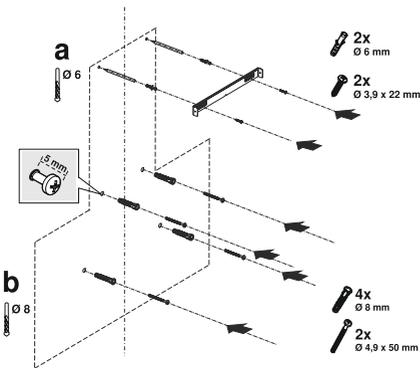

Fig. 11
1. Draw a mid location line from the ceiling perpendicular to the lower edge of the hood (Fig. 11).
2. There is a tab in the middle of the flue connection plate. Place the middle point of this tab on the line that is drawn perpendicular to the wall. Align horizontally and mark the holes where the connection plate will be mounted via a pen (Fig. 11/a).
Drill the marked points with Ø6mm drill and insert 2xØ6mm plastic dowels in the drilled holes (Fig. 11/a).
Fix the flue connection plate to the wall with 3,9x22 screws (Fig. 11/a).
3. To drill the suspension holes of the flue, place the mounting template on the surface where the appliance will be mounted on and mark the mounting holes (Fig. 11/b).
4. ▶ Drill the suspension holes with $\varnothing 8\text{mm}$ drill and place the dowels (Fig. 11/b).
Place 2x4.950 suspension screw with a clearance of 5 mm between the screw head and the wall (Fig. 11/b).
- The cooker hood is set in the midst, and then the flue connecting plate is directly affixed to the wall, under the cover or points E and F are marked after performing a measurement (Fig. 11)
- Drill points E and F with $\text{Ø}6\text{mm}$ drill bit, and insert $\text{Ø}6\text{mm}$ and plastic dowels. Insert the flue connection plate with 3,9x22 screws (Fig. 11).